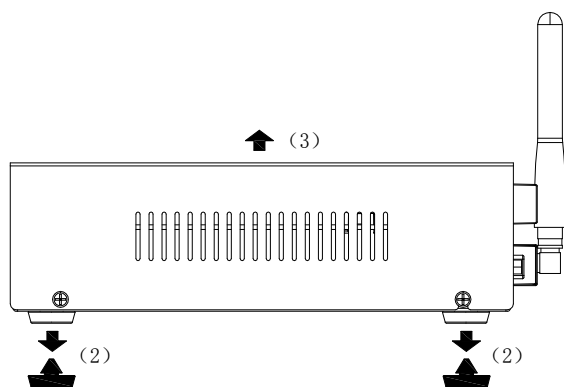

Figure 2.3 Remove rubber feet and top cover
(2) Remove 4 rubber feet.
(3) Loosen 4pcs screws which fix the top cover, remove top cover, as shown in Figure 2.3, 2.4.